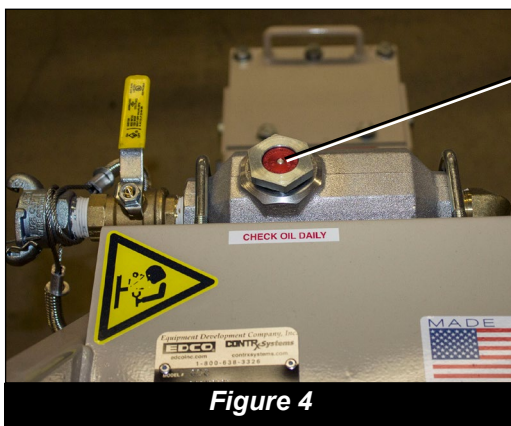

Figure 4
In addition, during the operation of the CD-5 or CD-3 it will be necessary to maintain the correct amount of oil in the lubricator. This oil in the lubricator is essential to the operating life of the components in the cylinder head. The proper oil in the airflow reaching the pistons and cylinders will help flush away any contaminants as well as lubricate the close tolerance components and will leave a non-corrosive film to eliminate rusting of the surfaces. The adjustment is located under the cap with the red center as shown *Figure 4*, below follow manufacturers instructions for adjustment.
- (1) Drain moisture from water filter (at compressor).
- (2) Fill lubricator with proper grade of oil (*Figure 4*).